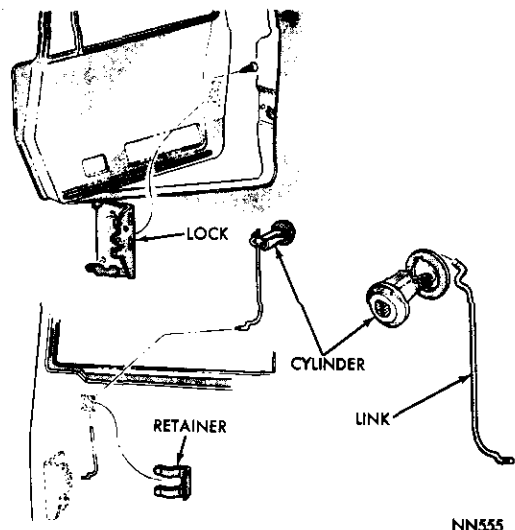

Fig. 30—Door Lock Cylinder (Coronet)
- (1) With window in the up position, disconnect cylinder link (Figs. 30 and 31) from clip on lock lever (4 door only) and from cylinder.